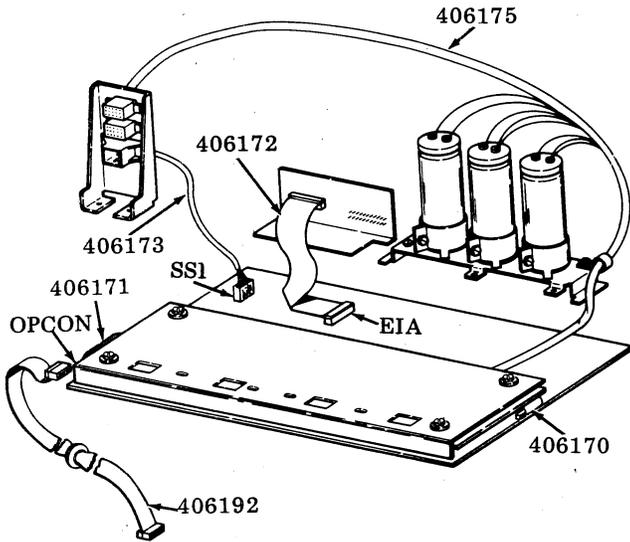

Fig. 2—40C303AC/003 Controller
2.05 Before reinstalling the printer, examine all cable connections inside the cabinet and make sure they are secure. (See Fig. 2.)